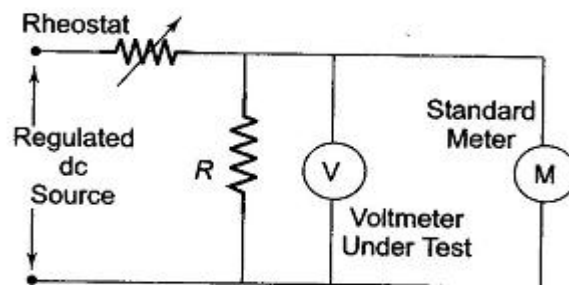

Figure 2: Schematic Circuit voltage Calibration
1. Connect the circuit is as shown in figure 2.